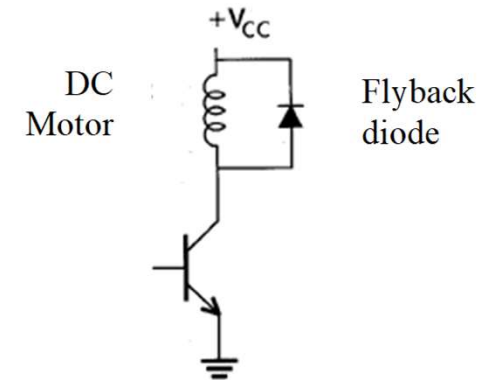

Figure 2: A DC motor circuit with a flyback diode.
- c. When controlling a DC motor, it is mandatory to add a flyback diode in the circuit, as illustrated in Figure 2. Explain why this is necessary.